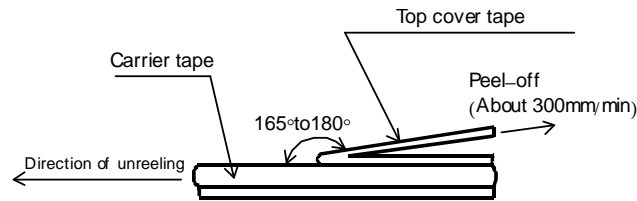
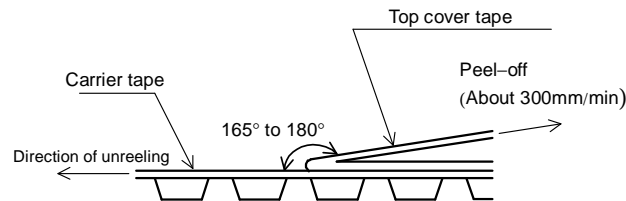

Figure-8
Figure-9
- 5). The peel strength of the top cover tape shall be with in 0.1N to 0.5N on the test method as shown in the following RLP16, 20, 32, MLP20, 32: Figure-8, RLP63, MLP63: Figure-9.